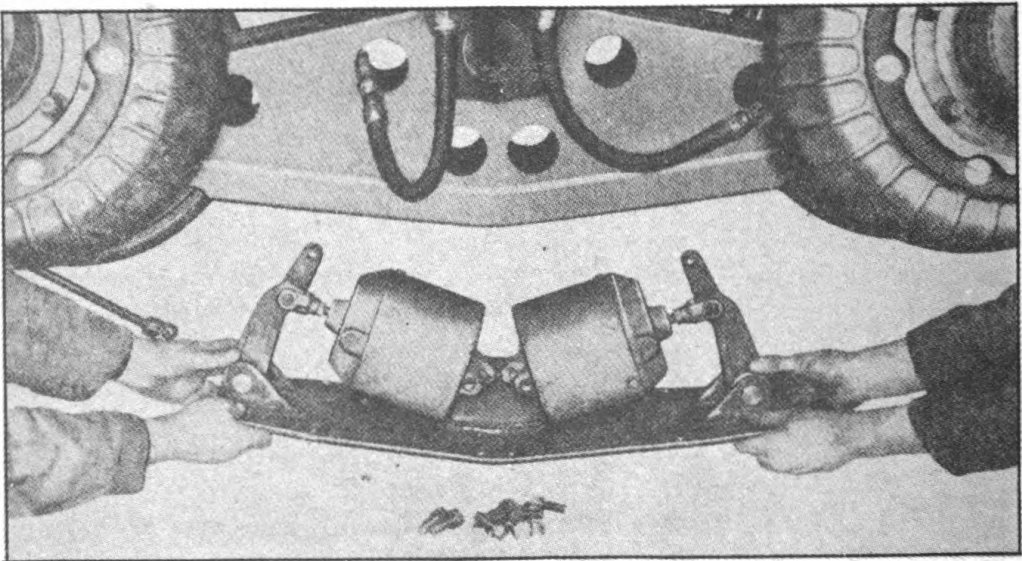

FIGURE 33. LOWERING BRAKE MOUNTING PLATE
(5) Remove the bolts holding mounting plate to walking beam and lower the complete assembly to the ground (Figure 33).